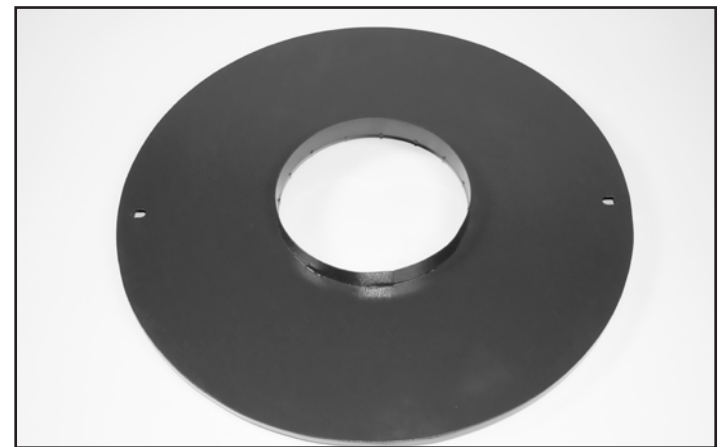

FIG. 26
- Collection Drum Cover (Parts List #7A) (Fig. 26)